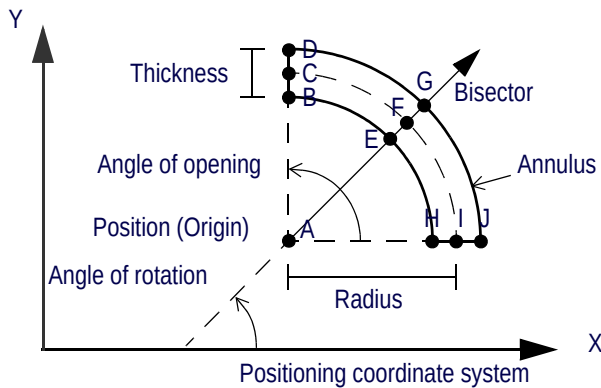

Figure 286 Arc Caliper — Adjusting the Sector
- Move the Sector by dragging its border or its origin located at the intersection of its two bounding radii shown with dotted lines. Handle *A* in Figure 286.
- Adjust the Sector's radius by dragging its center located at the intersection between the bisector and the median annulus. Handle *F* in Figure 286.
- Set the Sector's thickness by dragging any of its four resizing handles located at intersections between its two bounding radii and annuli or by dragging the two resizing handles located at the intersections of the bisector and the two bounding annuli. Handles *B*, *D*, *E*, *G*, *H*, and *J* in Figure 286.
- Set the Sector's opening by dragging any of its four resizing handles located at intersections between its two bounding radii and annuli. Handles *B*, *D*, *H*, and *J* in Figure 286.
- Rotate the Sector by dragging the two intersections between the median annulus and the two bounding radii. Handles *C*, and *I* in Figure 286.